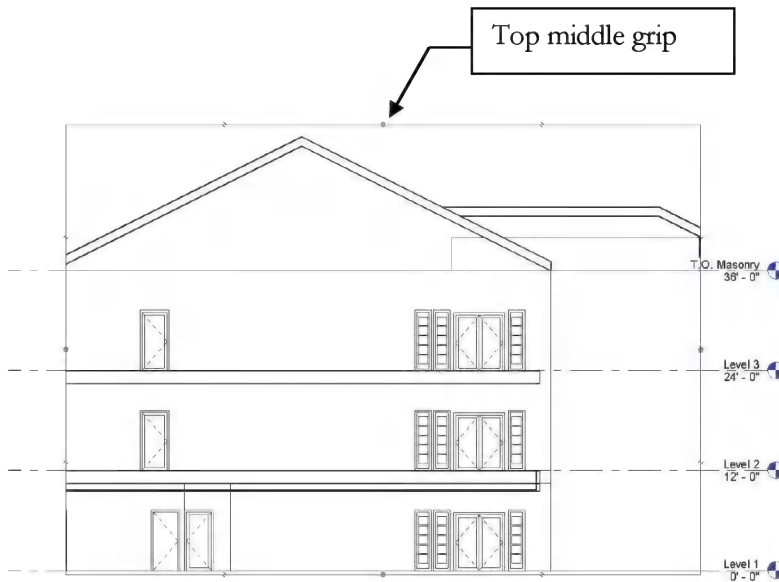

FIGURE 8-3.5 East Atrium
11. Select the cropping region and drag the top middle grip upward, to increase the view size vertically (Figure 8-3.5).